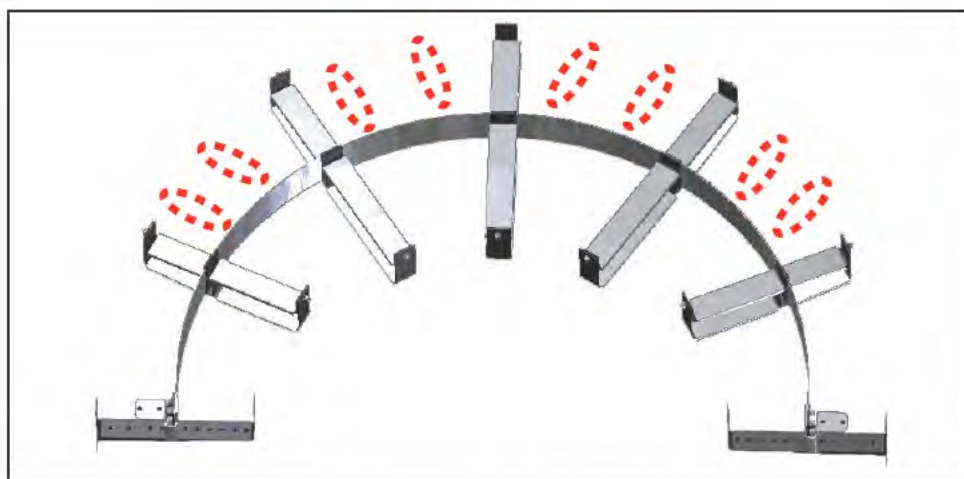

Figure 8 - Cable Tie Locations for the Right Tray Components
- 3.2. Put 16 cable ties (2 per location) around electrical and communications cables, including the rejected 5/8" green pneumatic hose from the previous step. See Figure 8 for the locations of the cable ties.
- 3.4. Put 16 cable ties in position, 2 cable ties per location. See Figure 8. Cable ties will keep the hoses loosely in place (do not tighten them yet). Keep the hoses away from the main harness.